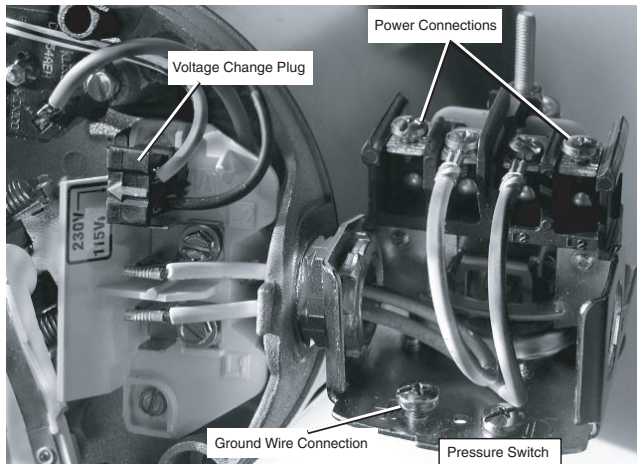

Figure 2: Voltage set to 230 volts, Plug Type
4. Attach the incoming power leads to the two outer screws on the pressure switch as shown in Figure 2.
5. Attach the ground wire to one of the grounding connections, shown in Figure 2.
1. Connect the ground wire first as shown in Figure 2. The ground wire must be a solid copper wire at least as large as the power supply wires.
4. Connect the power supply wires to the pressure switch as shown in Figure 2.